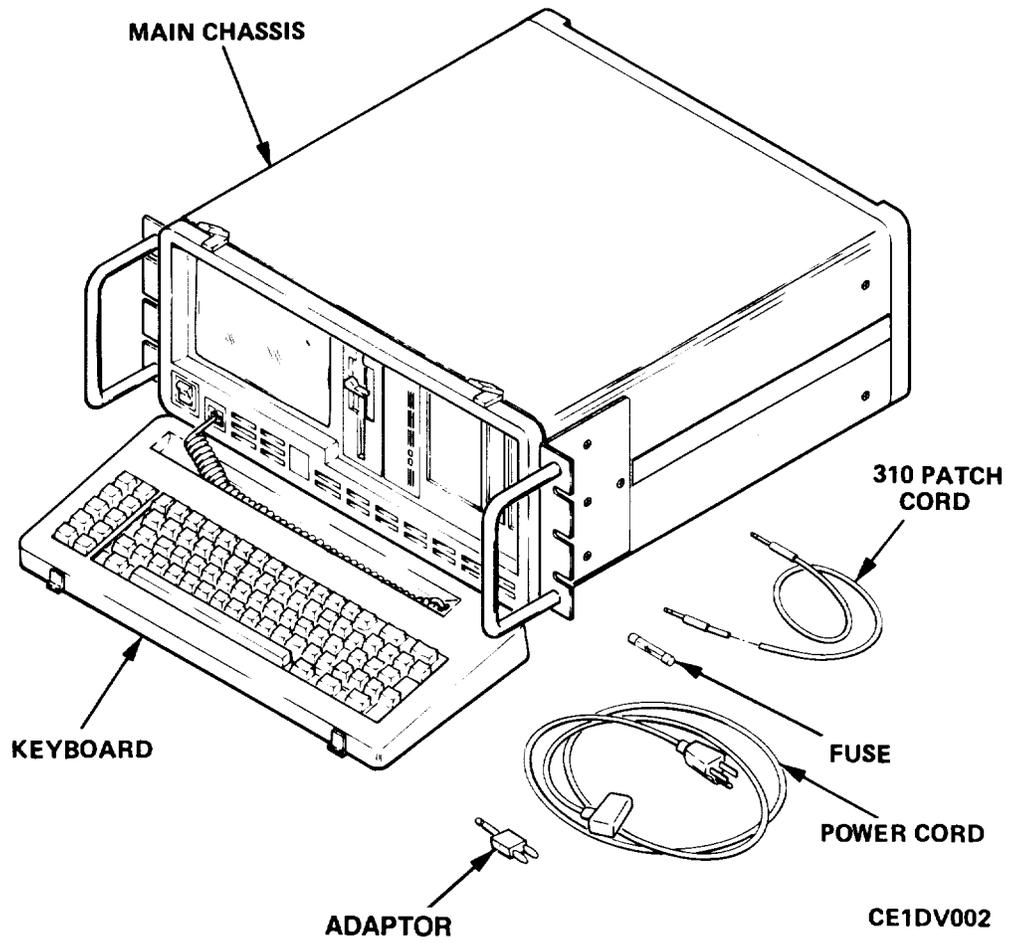

Figure 1-1. Transmission Test Set AN/USM-608
This manual describes the Transmission Test Set, AN/USM-608 (test set), and gives instructions for unit maintenance and intermediate direct and general support maintenance. The test set (fig. 1-1) is a combined Transmission Impairment Measurement Set (TIMS) and Return Loss (RL) tester designed to test telecommunications networks.
The major components of the test set are shown in figure 1-1.